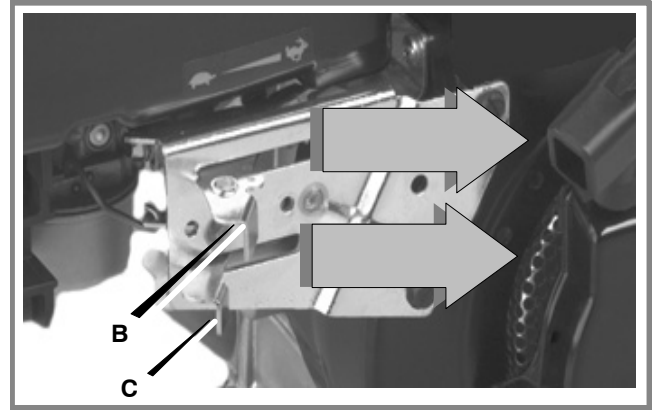

Figure 12: Engine Controls
- 2 Move the throttle control lever (B), if equipped, to the FAST  position (see Figure 12).
- 3 Move the choke control lever (C) to the CHOKE position (see Figure 12).